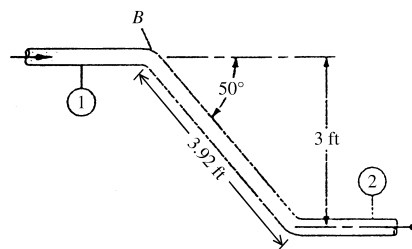

Fig. P3.115
**3.115** Water at 20°C flows at 30 gal/min through the 0.75-in-diameter double pipe bend of Fig. P3.115. The pressures are  $p_1 = 30 \text{ lbf/in}^2$  and  $p_2 = 24 \text{ lbf/in}^2$ . Compute the torque  $T$  at point  $B$  necessary to keep the pipe from rotating.